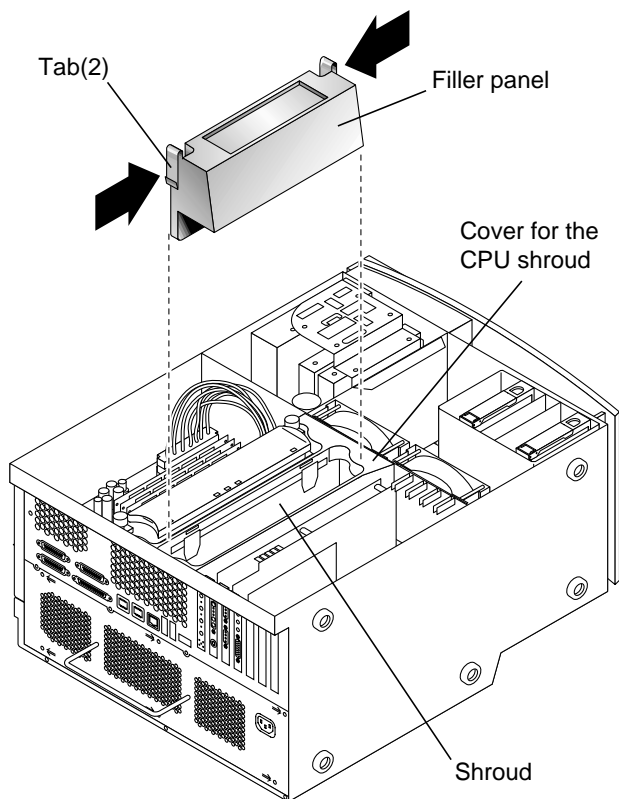

FIGURE 8-4 Removing the Filler Panel
6. If necessary, remove the filler panel (see FIGURE 8-4).
Caution – To ensure proper workstation cooling, any unused CPU slot must contain a filler panel for the shroud (see FIGURE 8-4).